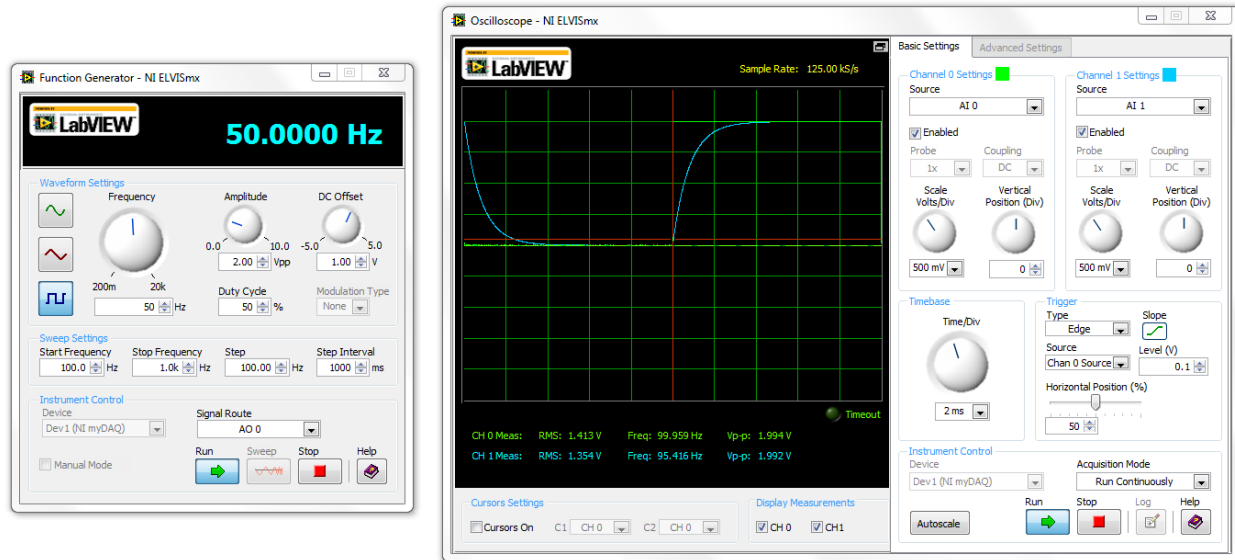

Figure 12: Open loop response of the first order plant
3. Connect a  $1\ \mu\text{F}$  (105) capacitor from pin 5 to ground. Connect a  $1\ \text{k}\Omega$  from pin 5 to the function generator and Channel 0 of the oscilloscope.
6. Measure the output of the plant and it should look like Figure 12. This represents the open loop response of the system plant. If you do not get a response similar to this figure, do not move on until you fix the circuit.